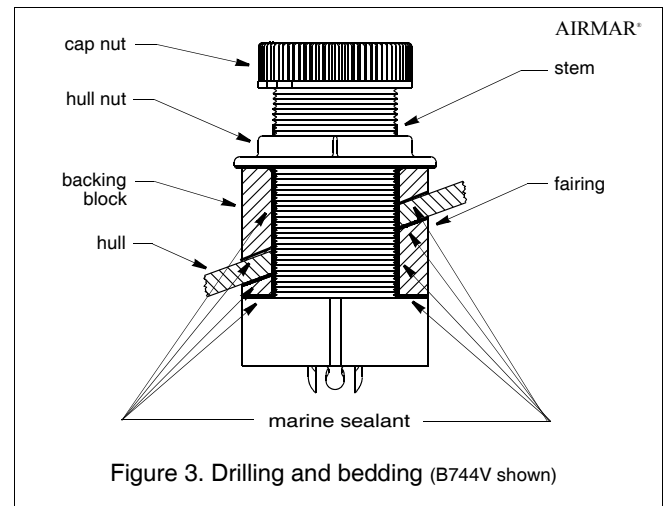
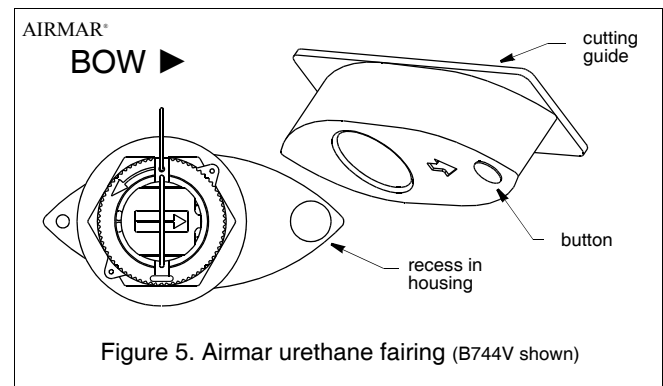

Figure 3. Drilling and bedding (B744V shown)
Figure 5. Airmar urethane fairing (B744V shown)
1. Drill a 3mm or 1/8" pilot hole perpendicular to the waterline from inside the hull (see Figure 3). If there is a rib, strut, or other hull irregularity near the selected mounting location, drill from the outside. If the pilot hole is drilled in the wrong location, drill a second hole in a better location. Apply masking tape to the outside of the hull over the incorrect hole and fill it with epoxy.
1. Apply a 2mm (1/16") thick layer of marine sealant over the surface of the multisensor housing that will contact the fairing (or hull if no fairing is used) and up the stem, 6mm (1/4") higher than the combined thickness of the fairing, hull, backing block, and hull nut (see Figure 3). This will ensure there is marine sealant in the threads to seal the hull and hold the hull nut securely in place.
2. Slide the fairing (if used) onto the stem and mate the button with the recess in the housing (see Figure 5).
3. Apply a 2mm (1/16") thick layer of marine sealant to the side of the fairing (if used) that will contact the hull (see Figure 3).
1. From outside the hull, push the stem of the multisensor housing (with the fairing in place if used) through the mounting hole using a twisting motion to squeeze out excess sealant (see Figure 3). If an Airmar fairing is used, *be sure* the button on the fairing is mated with the recess in the multisensor, the arrow on the fairing is pointing forward. **Take care to align the assembly parallel to the centerline of the boat** (see Figure 5).
2. From inside the hull, slide the backing block (if used), hull nut, and cap nut along the cable. Slide the backing block onto the stem and seat it firmly against the hull. Screw the hull nut in place. Tighten it with slip-joint pliers (see Figure 3).